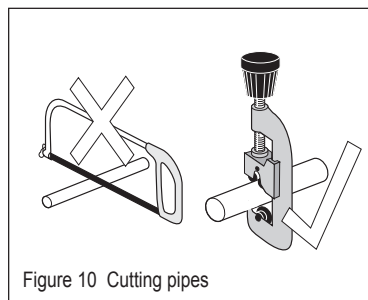

Figure 10 Cutting pipes
- 5.12 Cut all necessary pipework to length with a pipe cutter and not a hacksaw. This will minimise the swarf and prevent damage to the sealing o-ring in the pushfit fitting - see Figure 10 below.